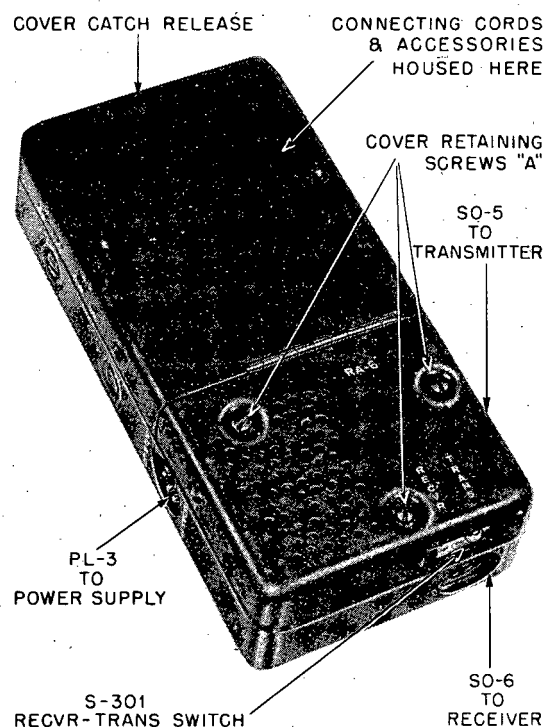

Figure 9. Filter-Auxiliary Unit RA-6 showing RECVR-TRANS switch
(1) The dials are calibrated in megacycles.
(2) The 3 to 7 mc markings are in blue.
(3) The 7 to 16.5 mc markings are in red.
d. Set RECVR-TRANS switch on Filter Accessory Unit RA-6 to TRANS. (See Figure 9).
a. Set RECVR-TRANS switch (Figure 9) on Filter-Accessory Unit RA-6 to RECVR.